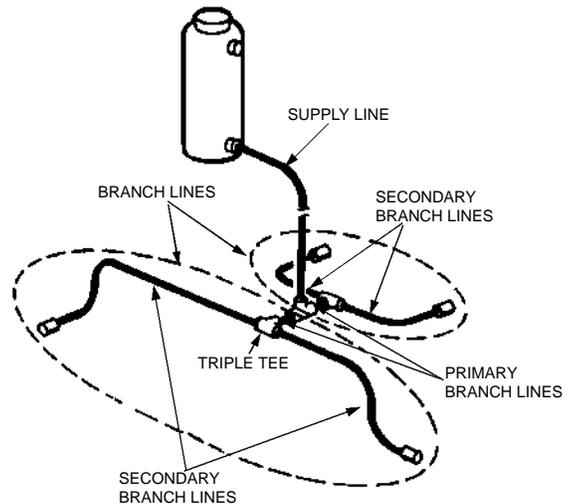
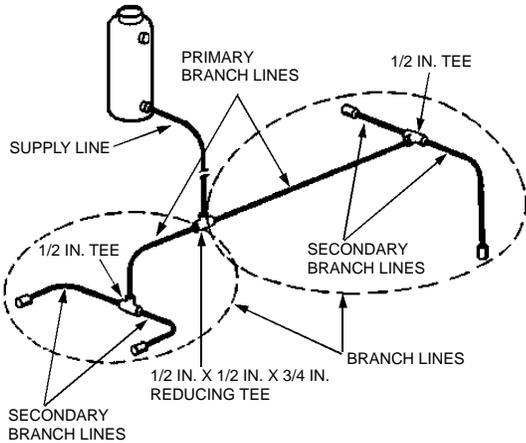
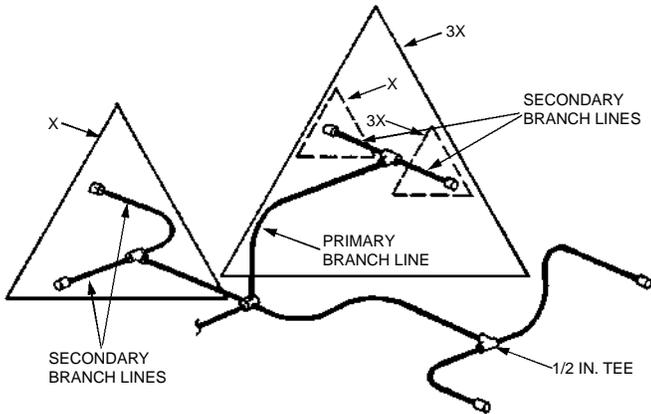

FIGURE 9E
FIGURE 9F
FIGURE 9G
- The twenty and thirty pound systems can be either balanced or unbalanced systems, and can be arranged utilizing three different network combinations. These include the triple tee arrangement which utilizes the triple tee and four nozzles (See Figure 9E), the split tee arrangement utilizing one 3/4 in. x 1/2 in. x 1/2 in. reducing tee, two 1/2 in. tees, and four nozzles (See Figure 9F), and the distribution tee arrangement which utilizes a distribution tee, three 1/2 in. tees, and six nozzles (See Figure 9G).